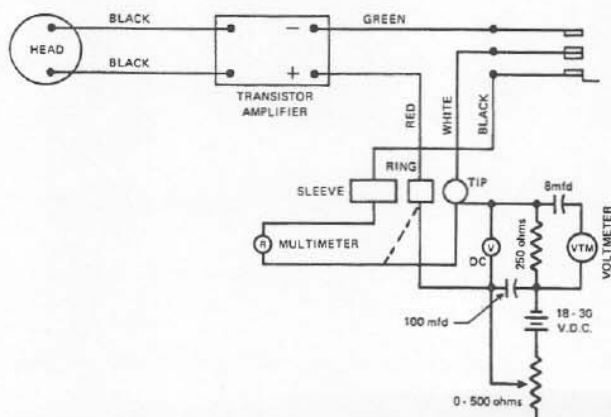
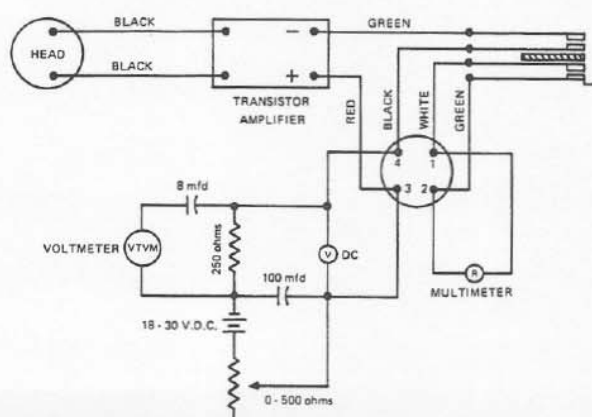

FIGURE 3 - Test Set-up (603-2107)
FIGURE 4 - Test Set-up (603-2342)
11. Check of Microphone Output. The best procedure for testing the microphone is to compare its output with one known to be operating properly, using the test set-up shown in Figure 3, or Figure 4. Check the output voltage as follows: